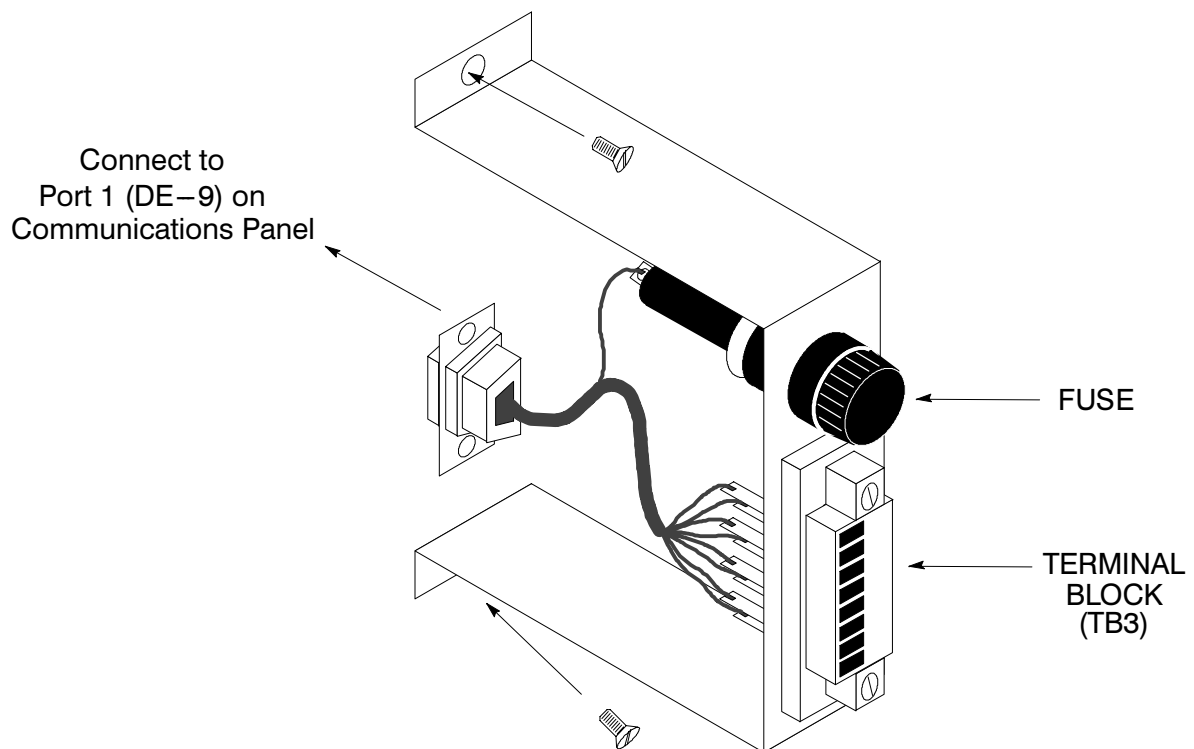
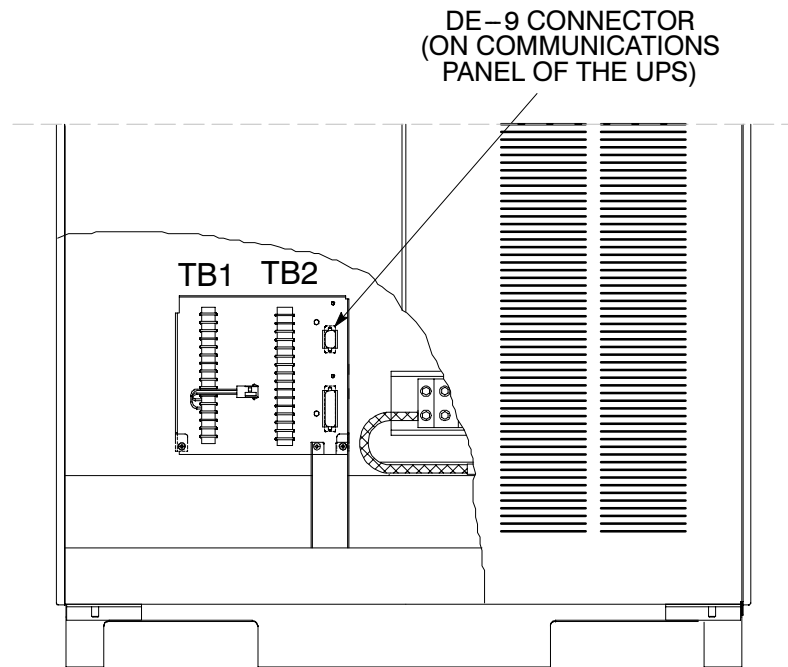

Figure 8. Terminal Block Bracket
Figure 9. Wiring an RMP to the UPS
3. In the spare parts kit, locate the RMP adapter cable assembly (see Figure 8). Mate the DE-9 connector on the back of the terminal block into the DE-9 connector on the Communications Panel of the UPS (see Figure 9). Use two screws from the spare parts kit to secure the terminal block bracket to the Communications Panel.